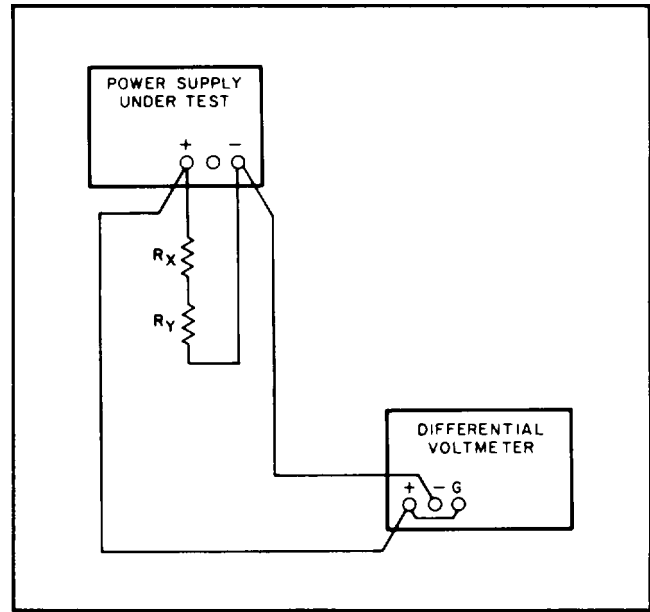

Figure 5-5. Load Regulation, Test Setup
a. Connect test setup as shown in Figure 5-5.
c. Connect test setup shown in Figure 5-5.
- a. Connect test setup shown in Figure 5-5.